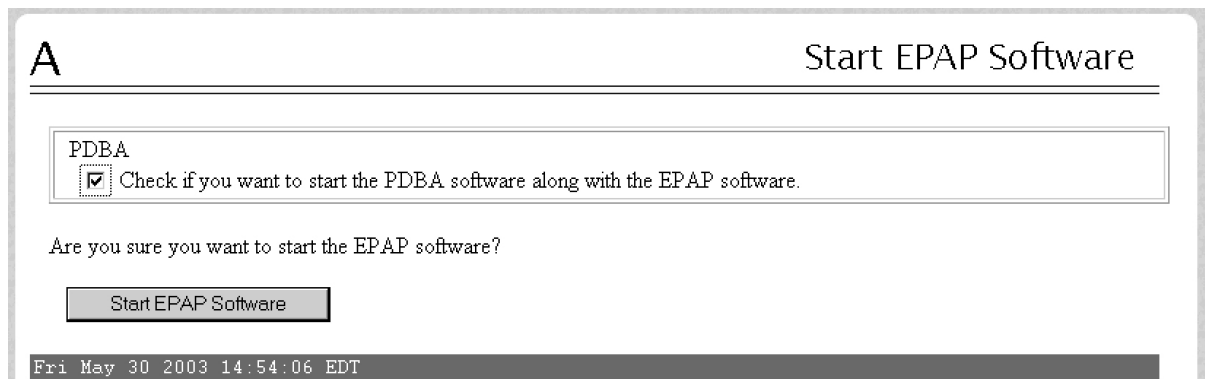

Figure 61: Start EPAP Software
7. From the **Start EPAP Software** screen, make sure the checkboxes are checked as shown in Figure 61: Start EPAP Software (this item applies only if performing this procedure on Side A):